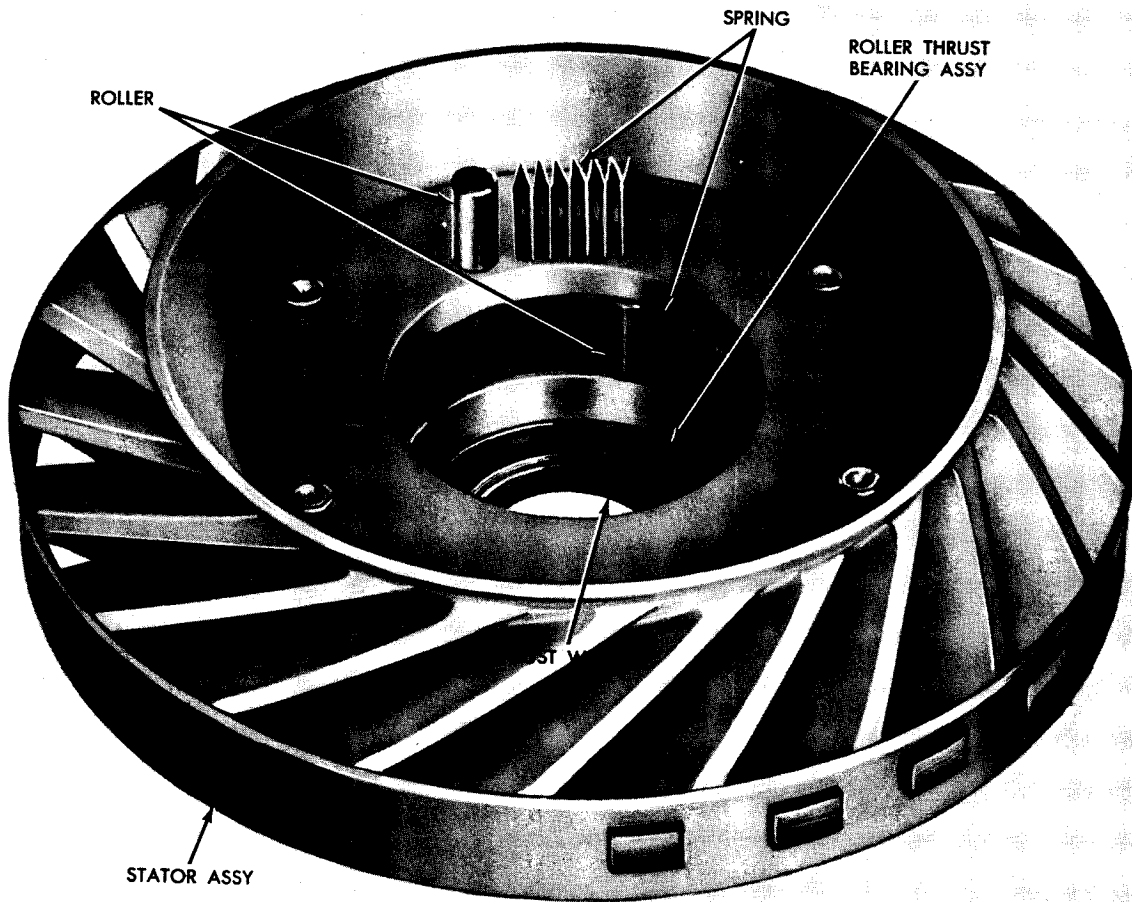

Fig. IX-8 Torque converter stator components
(1) Cover the bottoms of the stator cam pockets with oil soluble grease and install the 10 freewheel rollers and 10 springs (fig. IX-8). The ends of the springs must be toward the center of the stator and cam assembly. The rollers are installed in the shallow end of the cam pockets.